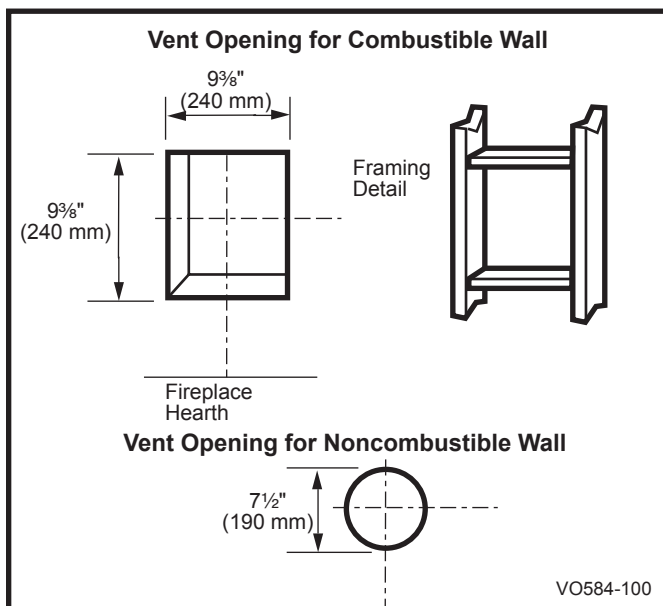

Fig. 22 Locate vent opening on wall.
Locate vent opening on the wall. It may be necessary to first position the fireplace and measure to obtain hole location. Depending on whether the wall is combustible or noncombustible, cut opening to size. (Fig. 22)
Combustible Walls (Fig. 22): Cut a 9 3/8" x 9 3/8" (240 x 240 mm) hole through the exterior wall and frame.
Noncombustible Walls (Fig. 22): Hole opening must be 7 1/2" (190 mm) in diameter.
1. Establish vent hole through the wall. (Fig. 22)